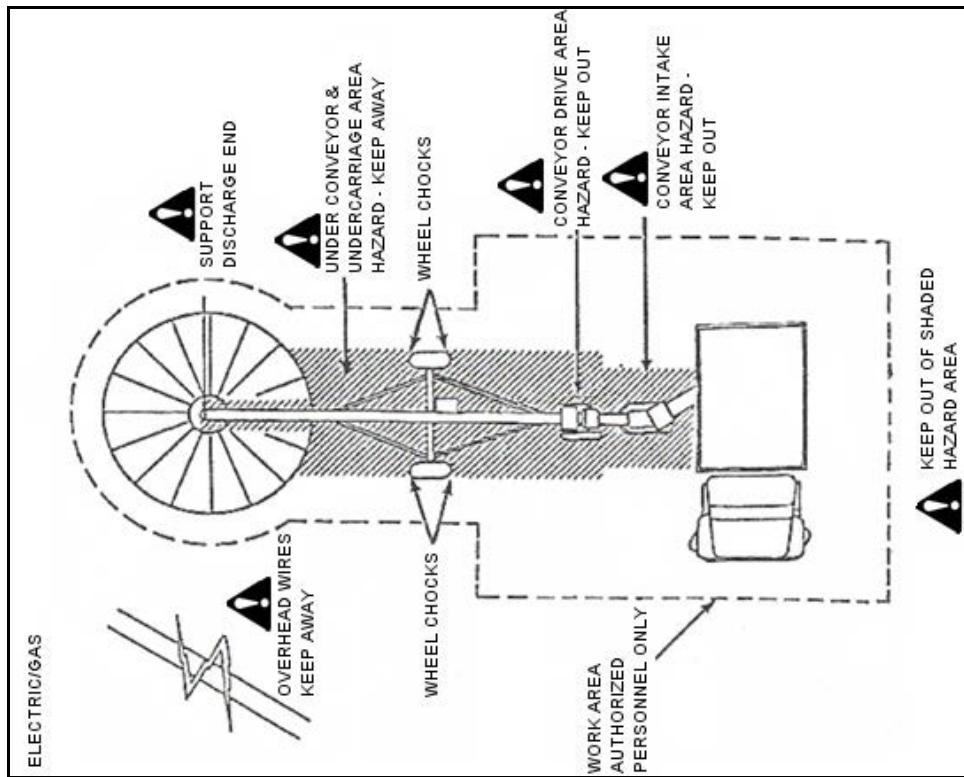

Figure 3.1 Workplace Hazard Area (Electric/Gas Area)
- Be familiar with the machine hazard area shown in Figure 3.1 and 3.2. If anyone enters the hazard area, shut down the machines immediately. Clear the area before restarting.